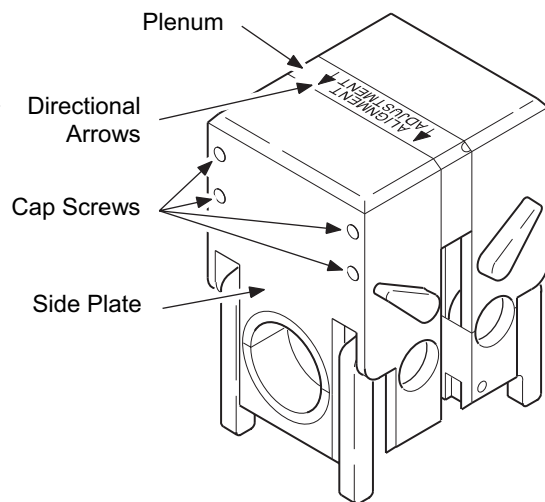

Figure 21 Loosening the Side Plate
1. Turn the fixture block over and locate the directional arrows on the plenum. The arrows point to the appropriate side plate. See Figure 21.
2. Using the provided 3/32 in. hex wrench, unscrew the four cap screws in the appropriate side plate just enough to loosen it from the plenum. See Figure 21 to locate the appropriate side plate.